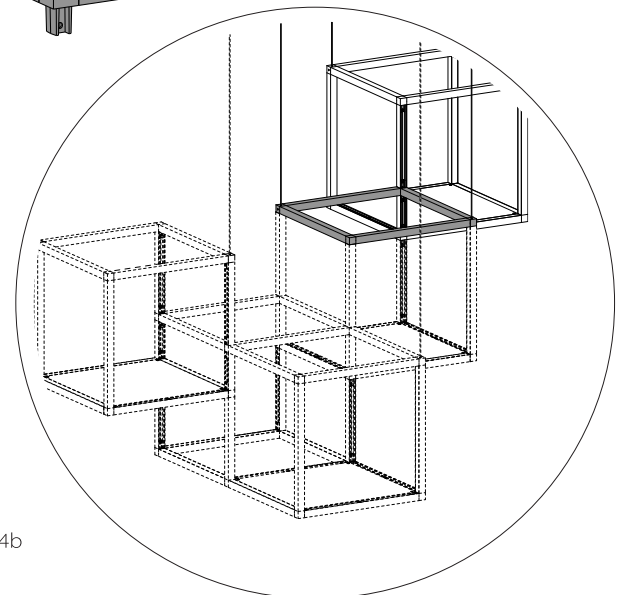

Fig. 4b
- 2c. Section as part of whole assembly shown in Fig. 4b.